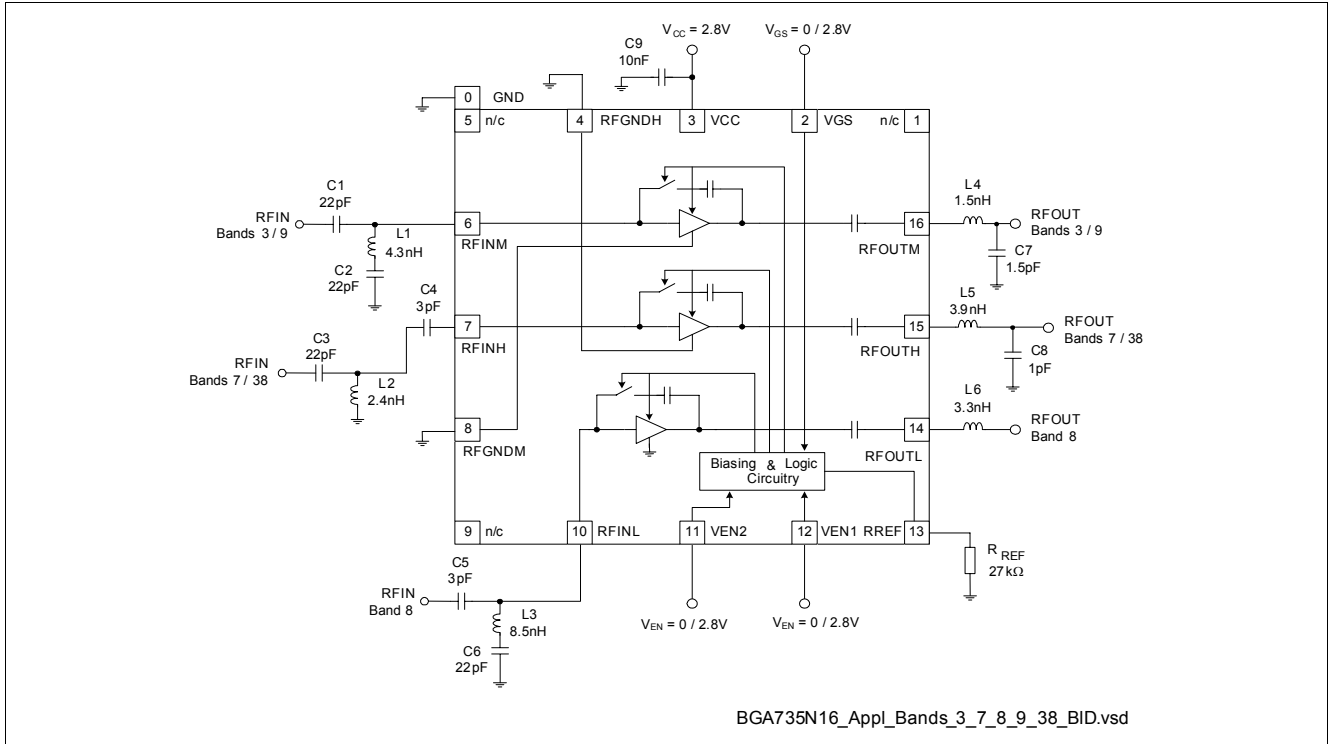

Figure 3 Application Circuit with Chip Outline (Top View)
1) Performance based on application circuit in Figure 3 on Page 25